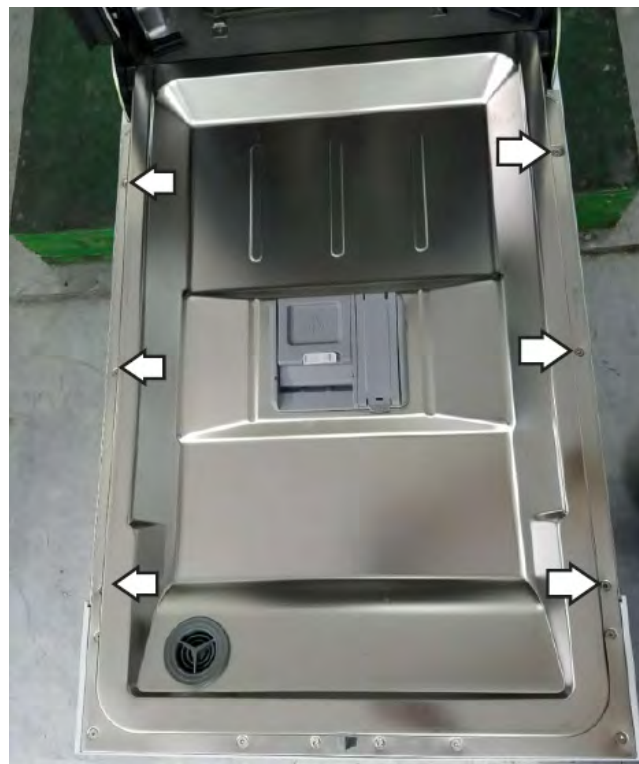

Figure 1
2. Remove six (6) screws on the sides and top of door panel assembly (see Figure 1).